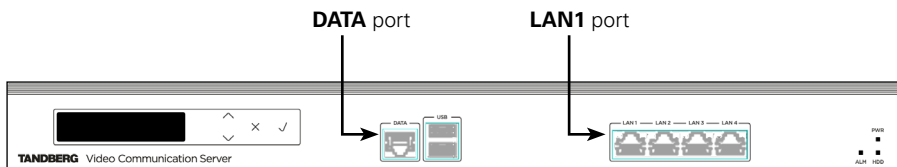

Figure 2: VCS front view
2. Connect the Ethernet LAN cable from the **LAN1** port on the front of the VCS to your network (see Figure 2).